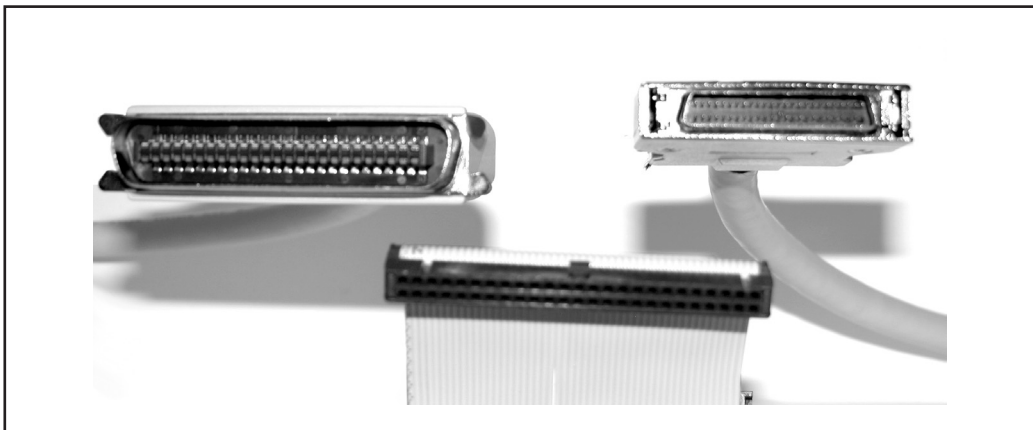

Figure 10-4. Connectors used for SCSI A type cables
- ▼ Cable A has 50 conductors and supports standards built on 8-bit transfer widths. Figure 10-4 shows the three connectors used for A type cables.